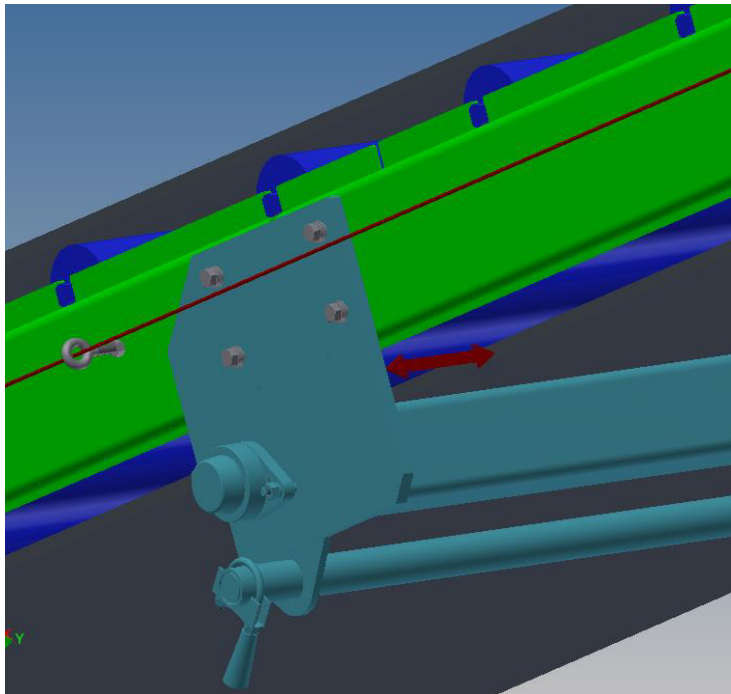

Figure 13 – Red Arrow Shows Good Measuring Point of Return Belt
- Measuring between the inside of the pedestal vertical stringer mounting plates and the edge of the belt can determine if the belt is centered on a return roller. See red arrow in figure 13 below.